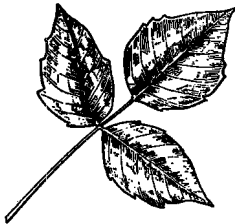

FIGURE 24. Poison Ivy.
- a. Poison Ivy—see Figure 24.